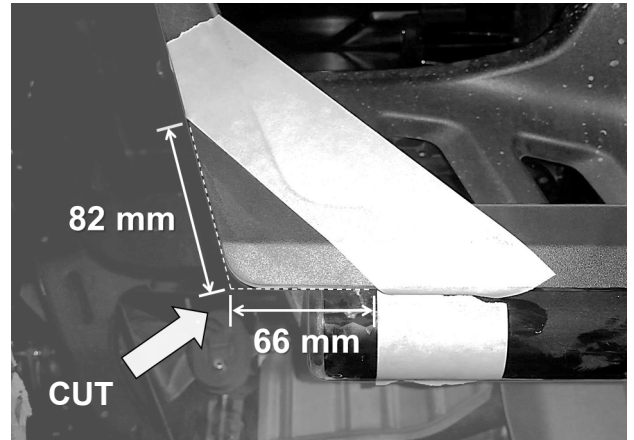

Fig. 28
3. The vehicle's lower fender must be trimmed. The fender's corner must be cut at an angle forming a triangle, 66 mm [2 5/8 in.] at the base by 82 mm [3 1/4 in.] as shown in Fig. 28